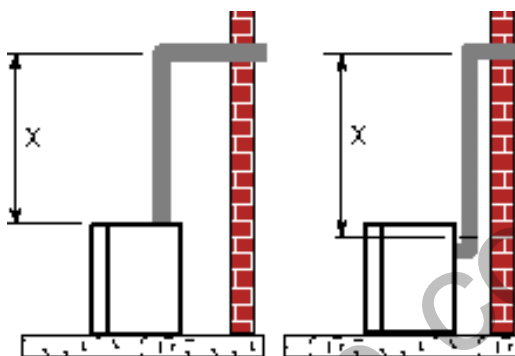

Figure 43 –
Place fireplace into position. Measure the vertical height (X) required from the base of the flue collars to the center of the wall opening. *Figure 43*